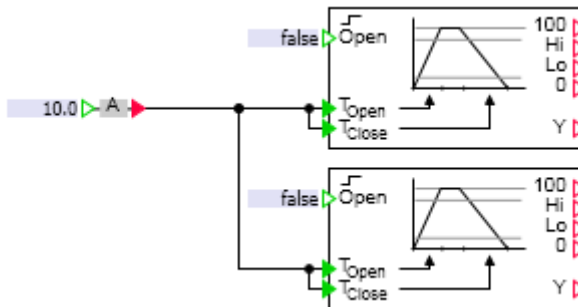

Figure 3-7: Assigning a default value to several inputs
- Component inputs can be assigned a default value directly. With the aid of a connector, several inputs can be assigned a single default value. As shown in the example in Figure 3-7, a connector is connected to the inputs of the components to be set. The value to be set is then placed on the input of the connector.